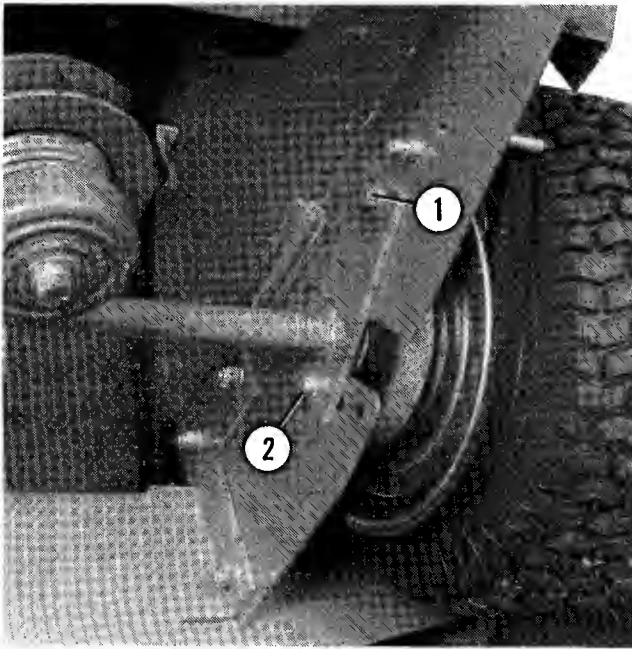
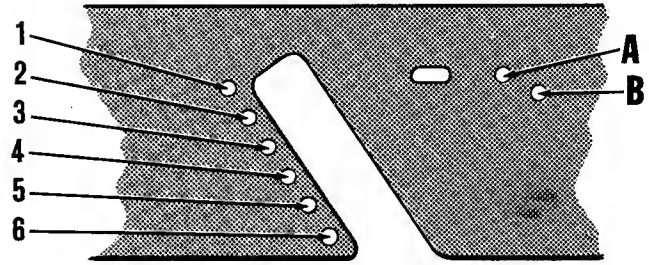

Figure 15 Rear Axle Adjustments
Figure 16 Axle and Drivewheel Scraper Positions
- C. Loosen the axle retaining bolts on both sides of the frame. See Fig. 15.
- D. Remove the axle adjusting bolts (Fig. 15) and reposition them as directed on the chart in Fig. 14, and shown in Fig. 16.
- G. Remove and relocate drivewheel scrapers to the position directed in the chart (Fig. 14) and shown in Fig. 16.